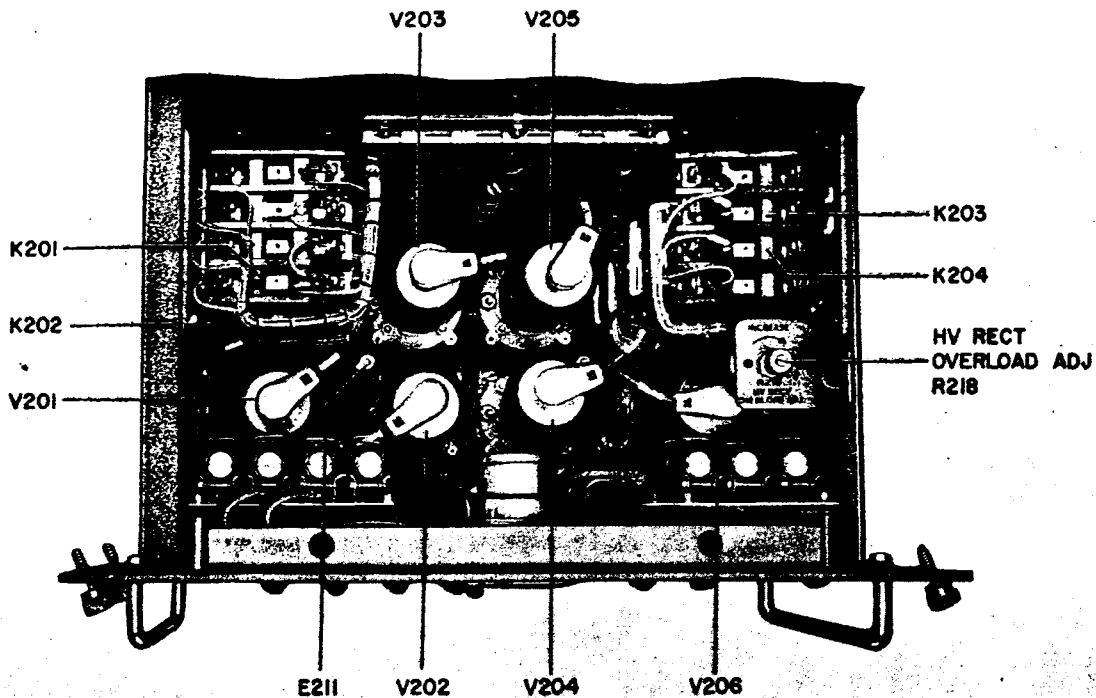

Figure 6-1. Power Supply PP-2222/WRT, Electrical Adjustments and Location of Tubes
(2) HIGH VOLTAGE RECTIFIER OVERLOAD ADJUSTMENT.
Step 4. Refer to figure 6-1 and rotate HV RECT. OVERLOAD ADJ. control R218 fully clockwise.